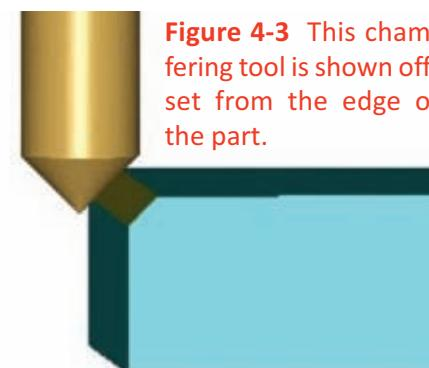

Figure 4-3 This chamfering tool is shown offset from the edge of the part.
2. For a chamfering tool to cut cleanly, the tip of the tool must be offset from the profile. (see Figs. 4-3)
The tip of the tool must be outside the profile (Fig. 4-3). I noticed recently in a new version of the CAM software we use that you can now offset a chamfering tool to cut a clean chamfer. Offsetting a chamfer tool is the only way to cut a clean surface.